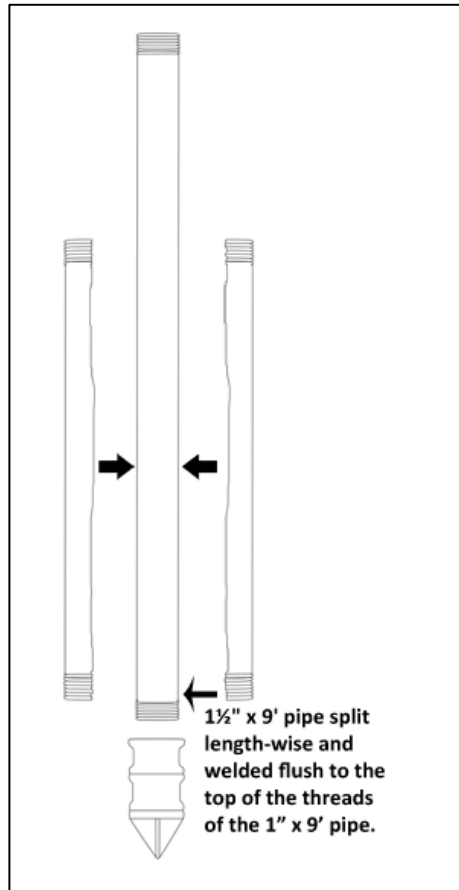

Figure 11 - Optional modification to stem
- i. **Optional modification:** Divide the 1½" x 9' galvanized pipe into two pieces, length-wise, and weld on to one end of 18' pipe so that the bit, once screwed on, will fit snug against the 9' pieces. This modification is done so that extra weight is added to the drill stem near the bit as well as reduces the impact on the threads holding the bit (Figure 11 next page).